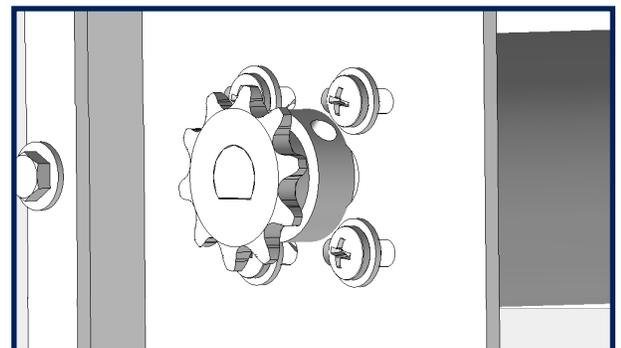

FIGURE 2B
2. Using the metric machine screws and washers mount the motors shown in **Fig 2B**. You do not need to fully tighten until you have installed the chains and treads, etc.